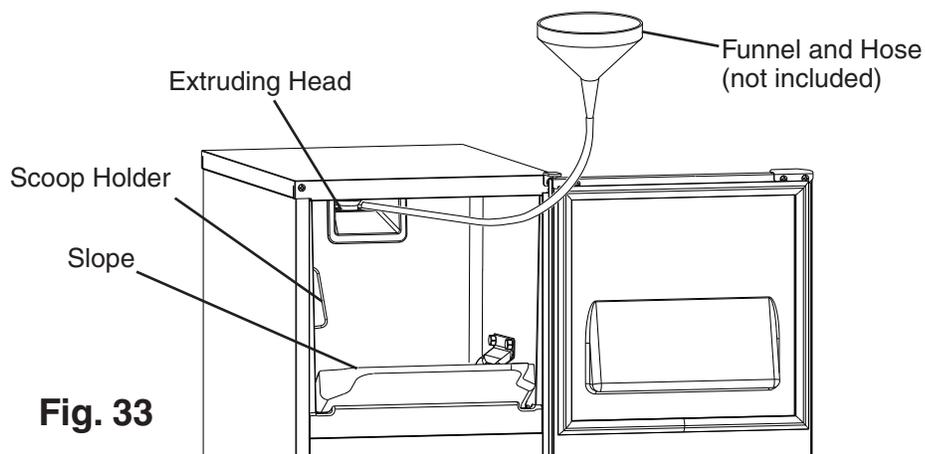

Fig. 33
- 6) Using a clean funnel and hose (not included), pour 1 qt (1 l) of cleaning solution over the extruding head. See Fig. 33. Allow the appliance to sit for 10 minutes before operation.